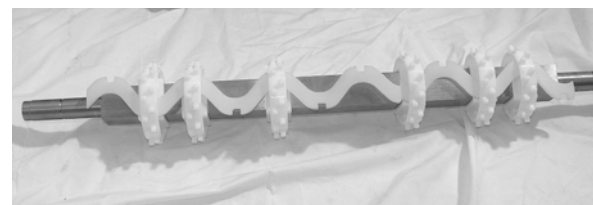

Figure 72
2. Slide the entire assembly onto the drive spindle (Figure 72).